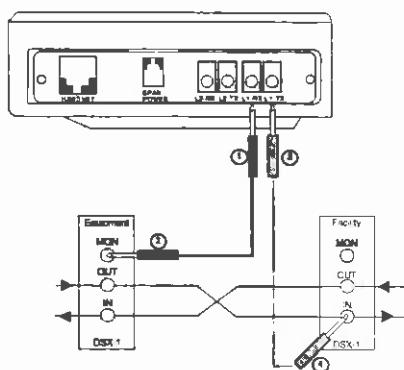

Figure 105 Connecting the Cords
Note: In the THRU mode, the test set receives and retransmits the other 23 channels without disruption. Using the THRU mode will cause a momentary hit on the circuit, as you are plugging into and unplugging from, the circuit. Refer to Figures 105, Advanced Talk/Listen, and 106 Connecting the Cords for illustrations of how to configure the test set for connecting to a DSX-1 access point. Other types of circuit access are possible; however, the MONITOR setup is preferable, as it provides the shortest circuit disruption.
4. Plug the test set into the circuit. Refer to Figure 105, Connecting the Cords for the correct order of the connections.